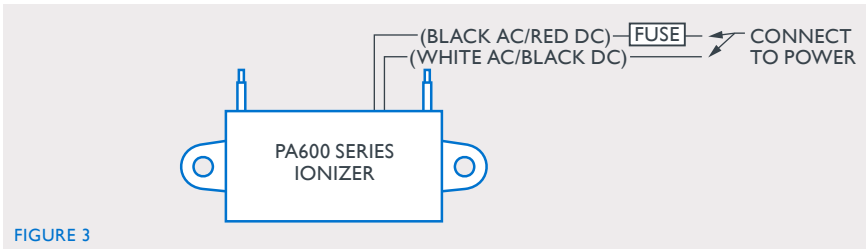

FIGURE 3
5. Connect power to the ionizer using appropriate voltage per the following: 601(12V DC) 602 (24V AC / 24V DC) 603 (120V AC) 604 (208-240V AC) See figure 3.